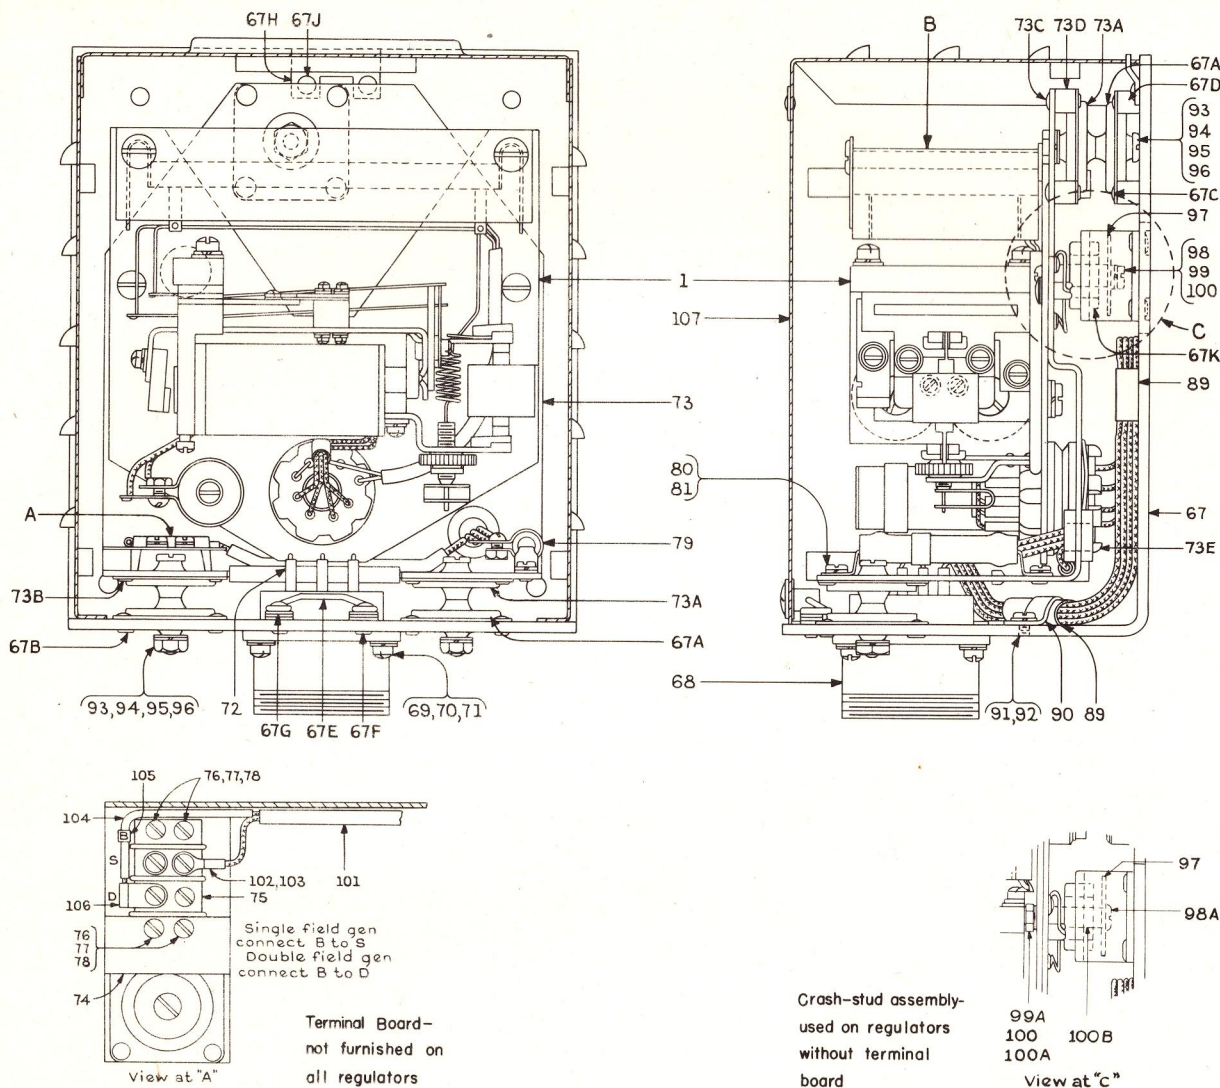

Fig. 11. Assembly of generator-voltage regulator, Model 3GBD1A18
Remove the cover (Fig. 11: Ref. 107). Release the two Dzus fasteners and pull out the regulator unit (1). Remove sub-base assembly (73) from the shock mountings of plate (67), disconnecting necessary leads. Detach the paralleling resistor (79) and terminal board (75) (if present). Detach the connector (68) from the plate (67).
Referring to Fig. 11, fasten the AN connector (68) to plate (67) by means of screws (69), washers (70), and lock washers (71). Add the paralleling resistor (79), to sub-base (73), fastening with screws (80) and lock washers (81). If the regulator was originally equipped with a terminal board, add this
terminal board (75) and plate (74) to sub-base (73), fastening with screws (76), washers (77), and lock washers (78). Wire the plug of sub-base (73) to the AN connector as shown in Fig. 8. Fasten the wires with cleat (90), screw (91), and lock washer (92). Add the sub-base (73) to the lower and top shock mountings of plate assembly (67), fastening with screws (93), nuts (94), washers (95) and lock washers (96). On Model 3GBD1A18 regulators which are equipped with terminal board (75), (see NOTE under DESCRIPTION), fasten washer (97) to the crash stud on the sub-base (73) by means of screw (98), washer (99) and lock washer (100). Wire terminal board (75) and the paralleling resistor (79) as shown in Fig. 8. On Model 3GBD1A18 regulators which are not equipped with the terminal board (75), use washer (97), screw (98A), spacer (100B), washer (99) and nut (100A) as shown in the sketch accompanying Fig. 11.